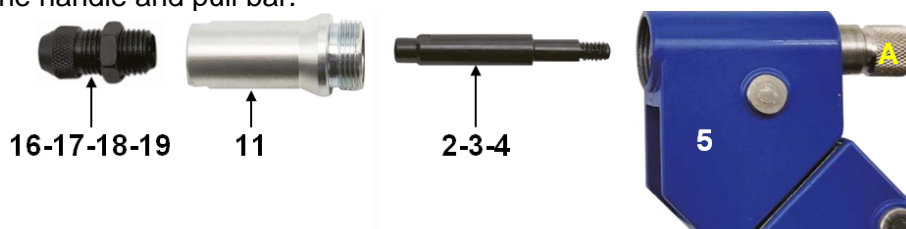

Fig. 3
1. Assemble the tool as shown in figure 3. Select correct mandrel for the stud rivet in question. Select the smallest mandrel holder that will allow the stud rivet in question to fit into it.
5. Place rivet stud into hole in work piece, ensuring nut flange is pressed against workpiece surface. Tighten the handle. When rivet has formed a retaining bulge against rear face of the sample, unscrew the mandrel from the stud rivet by turning the knurled end (A) of the draw bar and then screw on a new stud rivet for the next operation.